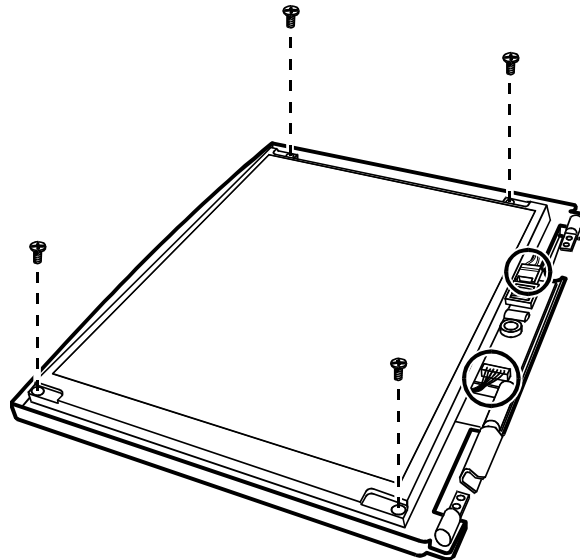

FIGURE 7-22. REMOVING THE FLAT PANEL SCREEN
1. RECONNECT THE CONNECTORS AND REPLACE FOUR SCREWS. (SEE FIGURE 7-22 EARLIER).